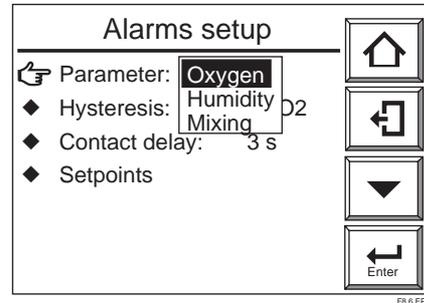

Figure 8.6 Alarms Setup Display
- (4) Select Parameter in the Alarms setup display to display Oxygen, Humidity, and Mixing, as Figure 8.6 shows.